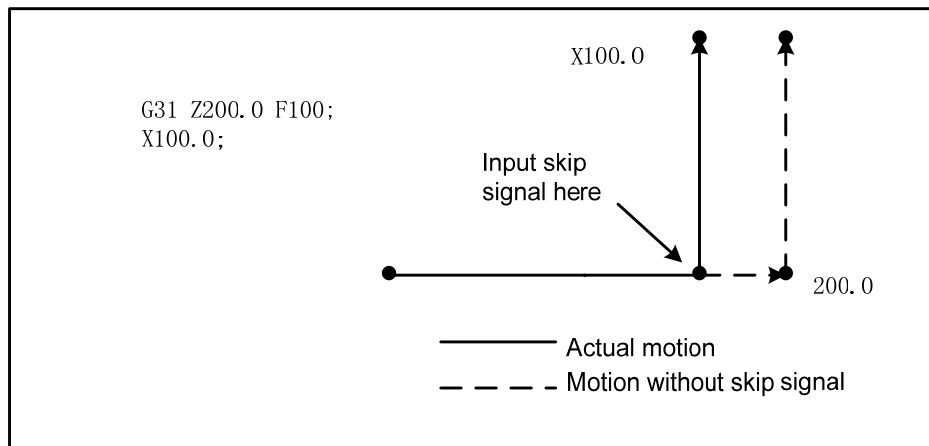

Fig.2-15
2. The next block of G31 is the absolute coordinate programming of one axis, which is shown in Fig. 2-15.